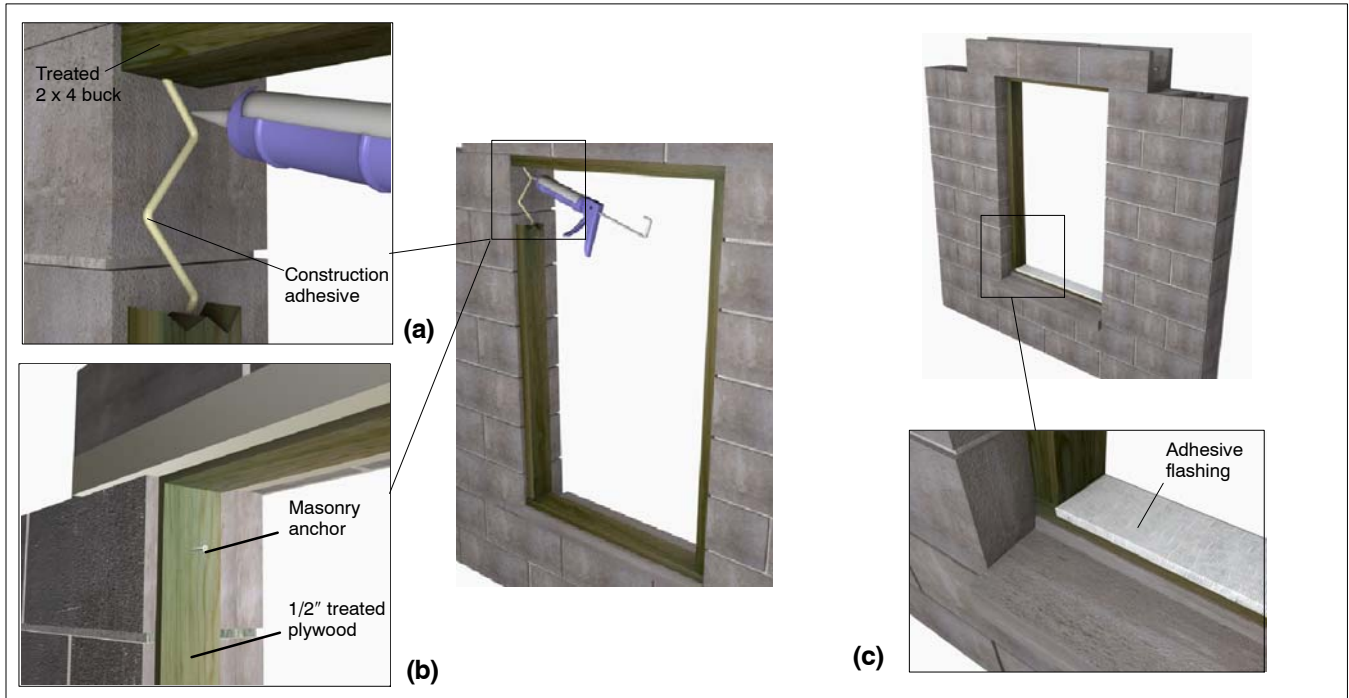

Figure 1: Preparing openings for concrete block openings.
4. The window frame must not come in contact with treated lumber. If you will not be using rigid panning or shimming at the sill, apply a barrier such as a self sealing adhesive flashing to the rough opening sill. See figure 1 c.